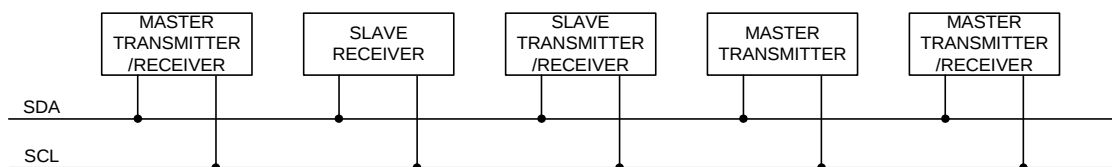
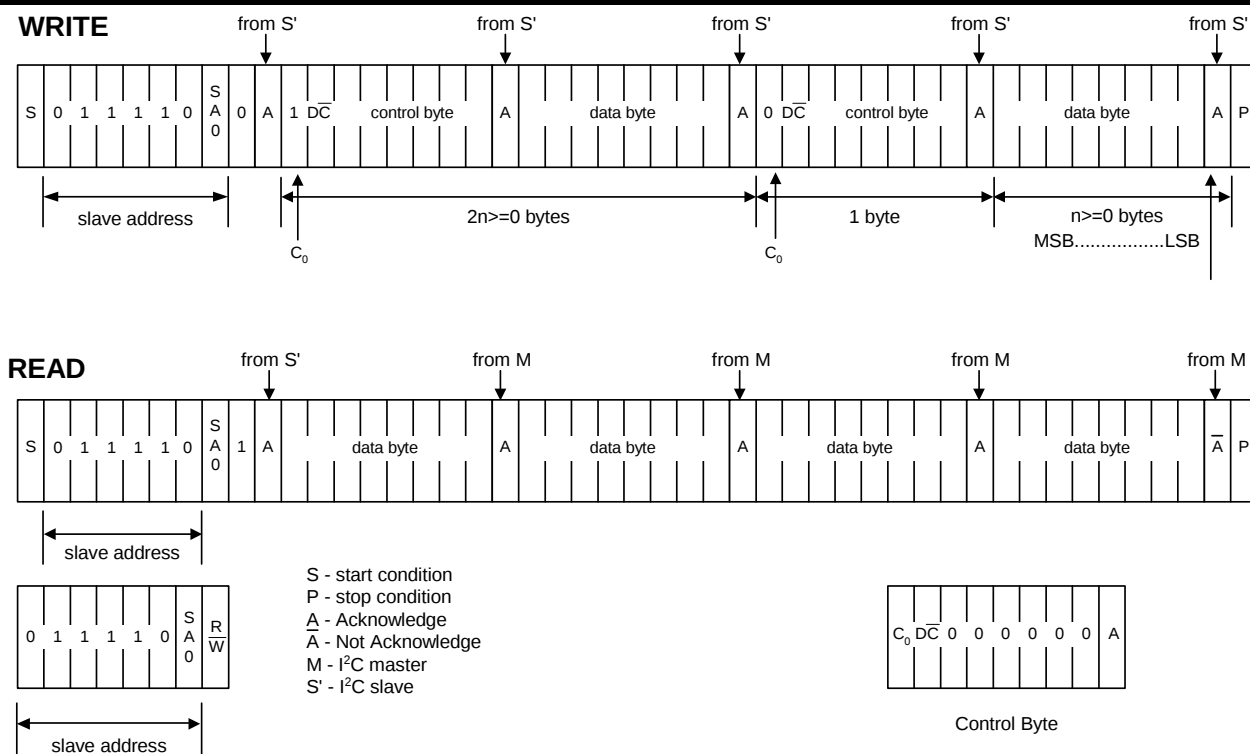

Figure 7 System configuration
Figure 9 I²C Protocol
The SH1126 supports both read and write access. The $R/\bar{W}$ bit is part of the slave address. Before any data is transmitted on the I²C-bus, the device that should respond is addressed first. Two 7-bit slave addresses (0111100 and 0111101) are reserved for the SH1126. The least significant bit of the slave address is set by connecting the input SA0 to either logic 0(VSS) or 1 (VDD1). The I²C-bus protocol is illustrated in Fig.9. The sequence is initiated with a START condition (S) from the I²C-bus master that is followed by the slave address. All slaves with the corresponding address acknowledge in parallel, all the others will ignore the I²C-bus transfer. After acknowledgement, one or more command words follow which define the status of the addressed slaves. A command word consists of a control byte, which defines Co and $D/\bar{C}$ (note1), plus a data byte (see Fig.7). The last control byte is tagged with a cleared most significant bit, the continuation bit Co. After a control byte with a cleared Co-bit, only data bytes will follow. The state of the $D/\bar{C}$ -bit defines whether the data-byte is interpreted as a command or as RAM-data. The control and data bytes are also acknowledged by all addressed slaves on the bus. After the last control byte, depending on the $D/\bar{C}$ bit setting, either a series of display data bytes or command data bytes may follow. If the $D/\bar{C}$ bit was set to '1', these display bytes are stored in the display RAM at the address specified by the data pointer. The data pointer is automatically updated and the data is directed to the intended SH1126 device. If the $D/\bar{C}$ bit of the last control byte was set to '0', these command bytes will be decoded and the setting of the device will be changed according to the received commands. The acknowledgement after each byte is made only by the addressed slave. At the end of the transmission the I²C-bus master issues a stop condition (P). If the $R/\bar{W}$ bit is set to one in the slave-address, the chip will output data immediately after the slave-address according to the $D/\bar{C}$ bit, which was sent during the last write access. If no acknowledge is generated by the master after a byte, the driver stops transferring data to the master.